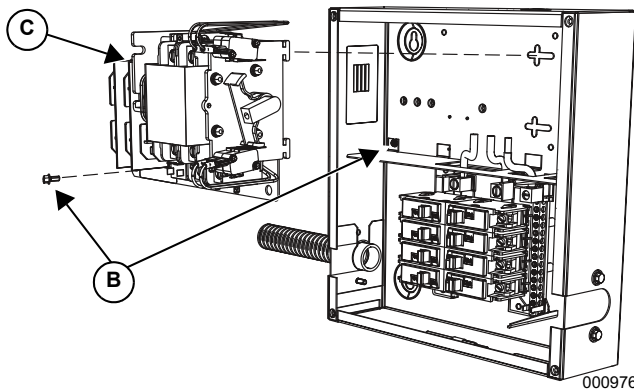

Figure 3-4.
5. Remove the lower left screw that secures the divider plate in the transfer switch (B in Figure 3-4).
6. Install the new automatic back plate in the transfer switch and secure to the transfer switch enclosure (C in Figure 3-4).